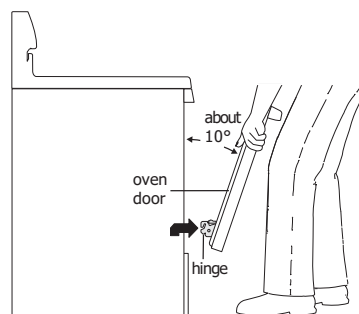

Figure 30: How to remove door
3. Firmly grasp both sides of oven door along the door sides (Do not use the oven door handle - Figure 30).
5. With the oven door in the broil stop position, lift the oven door hinge arms over the roller pins located on each side of the oven frame (Figure 30).
1. Firmly grasp both sides of oven door along the door sides (Do not use the oven door handle - Figure 30).